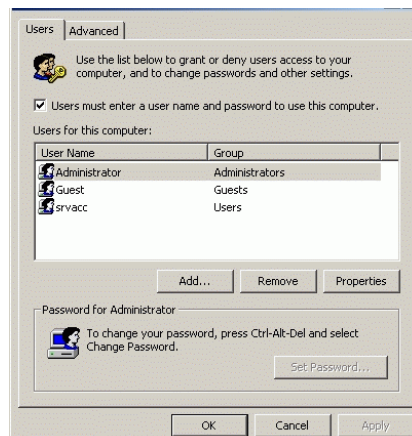

Figure 2-21 Users and Passwords Dialog Box
2. Double-click the *Users and Passwords* icon. The *Users and Passwords* dialog box displays (Figure 2-21).